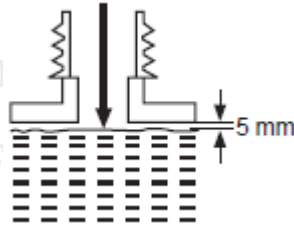

Fig. 6
4. Add correct fuel into the tank. Leave a minimum 5 mm of space between the top of the fuel and the inside edge of the tank to allow for expansion (Fig. 6).